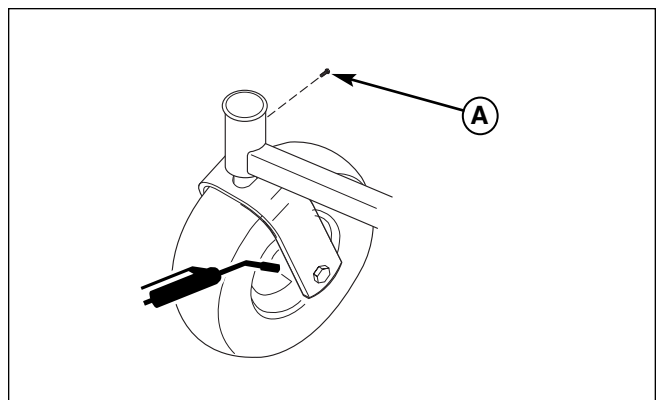

Figure 19. Front Caster & Wheel
1. Remove the 1/4-28 (A, Figure 19) bolt screwed into the front caster and install a 1/4-28 grease fitting